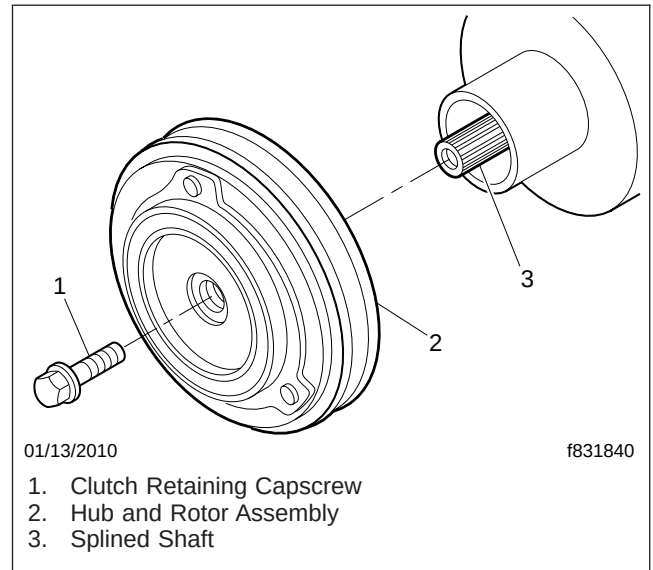

Fig. 2, Removing the Retaining Capscrew
2. Remove the clutch retaining capscrew from the compressor shaft. See Fig. 2.